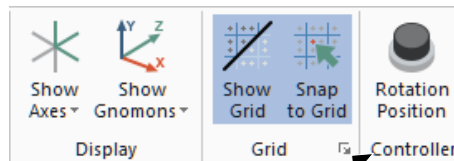

Fig. 3
Step 2. Click the **Dialog Box Launcher** (Alt-G), **Fig. 3.**